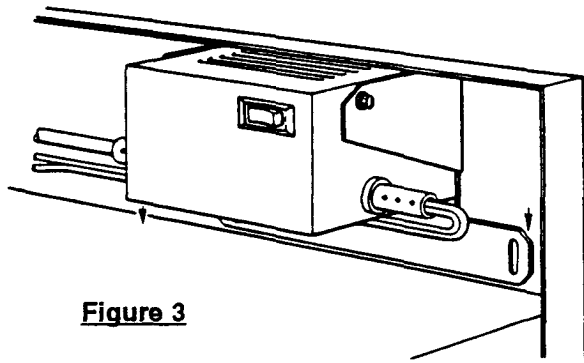

Figure 3
- 2.) Place the control module against the front panel such that the tabs on the control module are down toward the deck. (See Figure 3).
- 3.) Bend the black/red cables under the control module and between the dimples on the bottom of the control module. (See Figure 3).